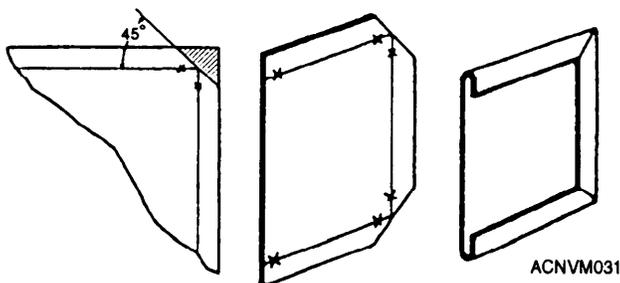

Figure 12-31.—Slant notch.
**SLANT NOTCHES** are cut at a 45-degree angle across the corner, when a single hem is to meet at a 90-degree angle. Figure 12-31 shows the steps in forming a slant notch.